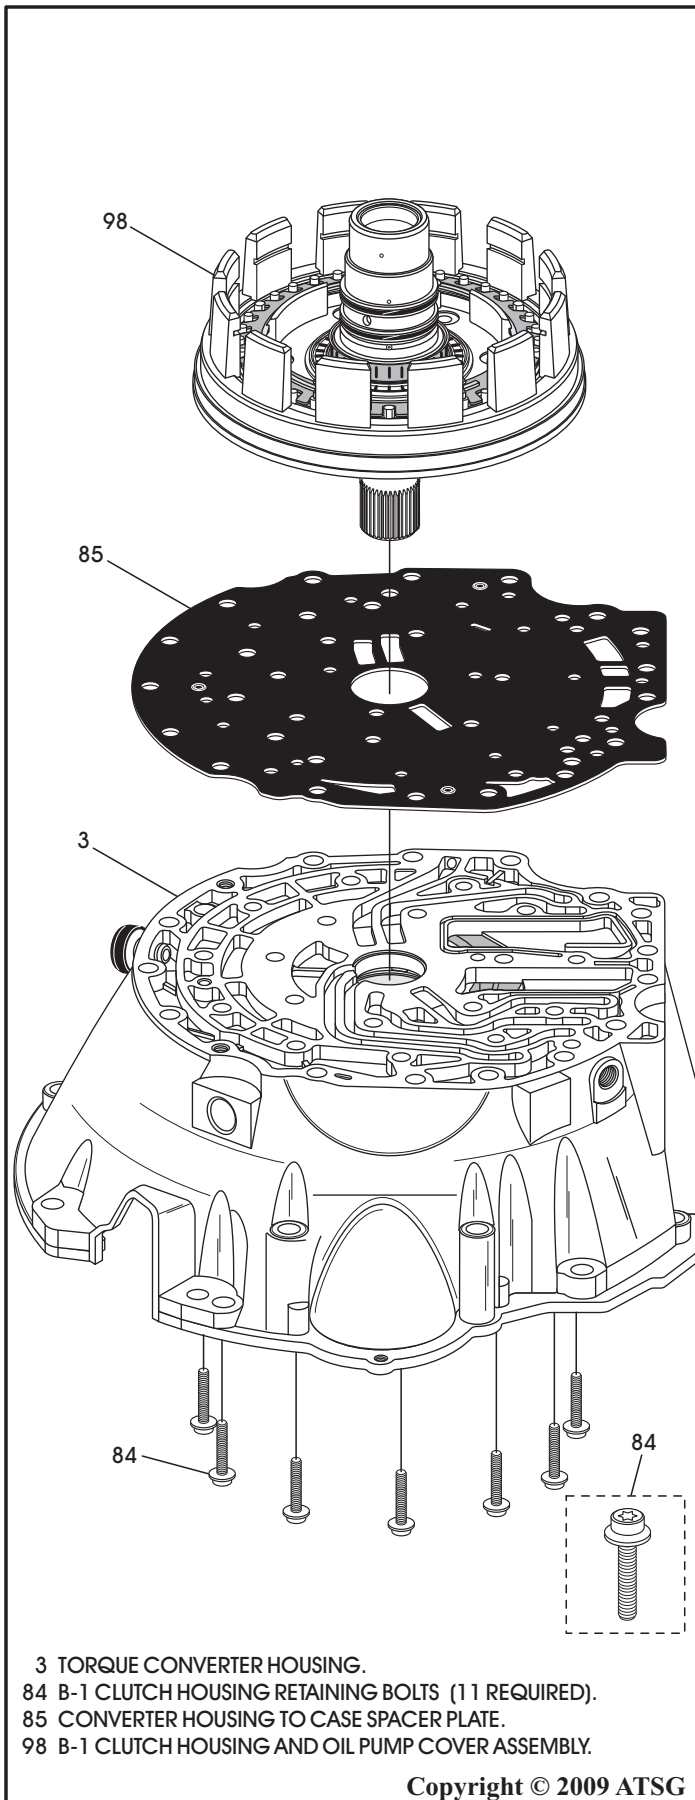

Figure 73
29. Place the converter housing face down on flat work surface, as shown in Figure 73.
30. Place converter housing to case spacer plate on converter housing, as shown in Figure 73.
31. Install the B-1 clutch housing with piston onto spacer plate, as shown in Figure 73.
32. Install the eleven clutch housing retaining bolts as shown in Figure 73.